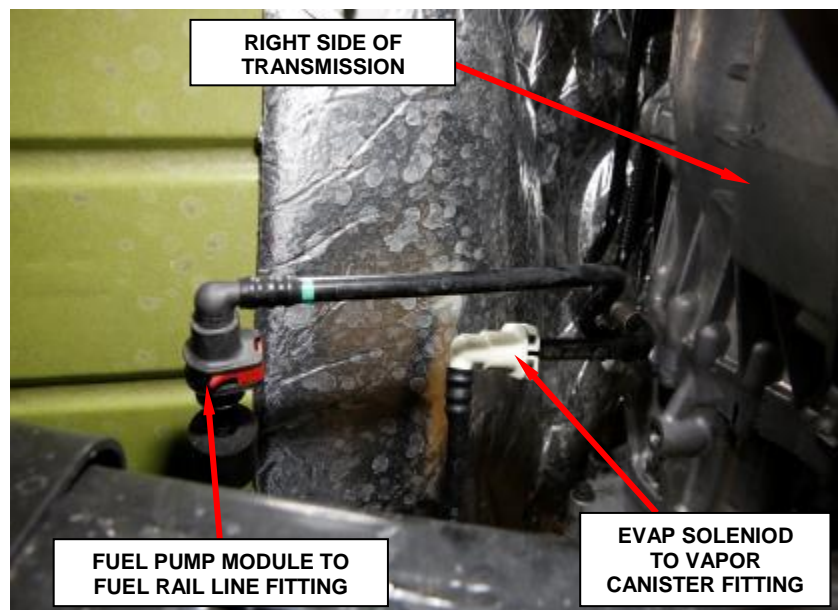

Figure 4 – Quick-Connect Fittings
12. Disconnect the EVAP solenoid to vapor canister line quick-connect fitting (Figure 4).
13. Disconnect the fuel pump module to fuel rail line quick-connect fitting (Figure 4).